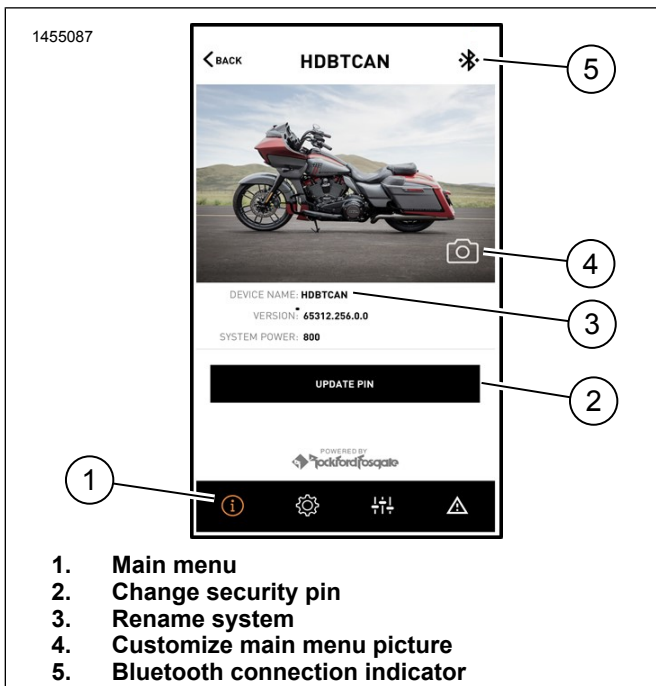

Figure 11. Main Menu
2. Figure 11 Main menu screen.
- a. Main menu icon (1).
- b. Reset or change security personal identification number (PIN) (2).
- c. Edit and rename your system (3).
- d. Customize main menu with your bike picture (4).
- e. Bluetooth connection indicator. Slash through symbol indicates: Not Connected (5).